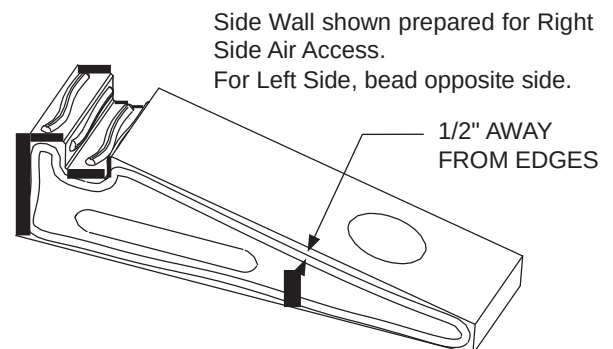

**Figure 37 - Preparing Side and Rear Wall Pieces**
5) Before installing side walls, confirm placement of outside air kit (if required). This can be installed either side depending on which side is accessible to outside combustion air (all diagrams in this manual show the combustion air inlet hole on the right side). Prepare side wall and rear wall mating surfaces with the prepared mortar and begin assembly as shown in Figure 37.